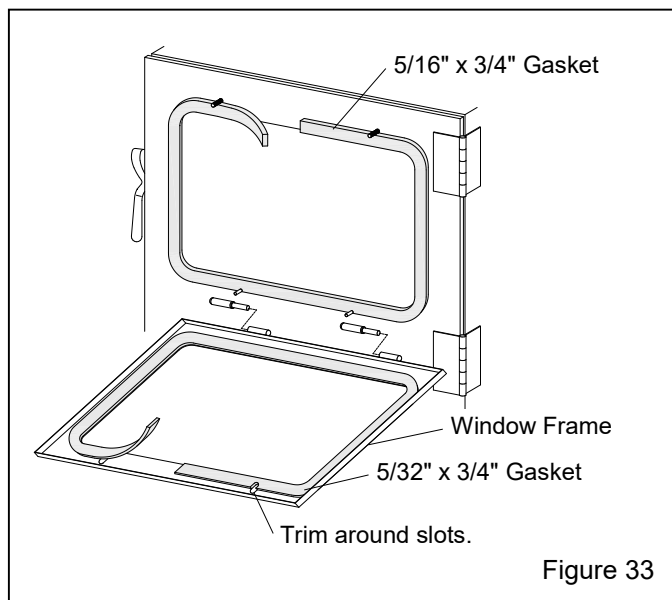

Figure 33
7.5 Window-Gasket Replacement – Figure 33
7.5.4 Peel a short section of adhesive backing from the 5/16" thick strip gasket and adhere the gasket to the center of the top edge of the window opening, as shown in Figure 33. Peel additional backing as needed and work the strip around the radius of each corner, pressing it tightly to bond. Trim the gasket to fit and compress the ends to seal.